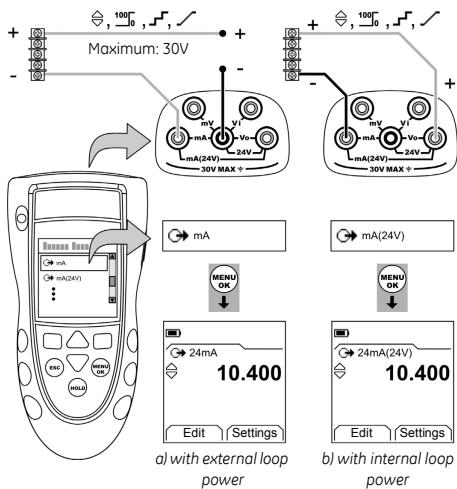

Figure 3: Example configuration - To supply mA
1. Connect the instrument (Figure 3) and, if necessary, adjust the Set Up (Table 1).